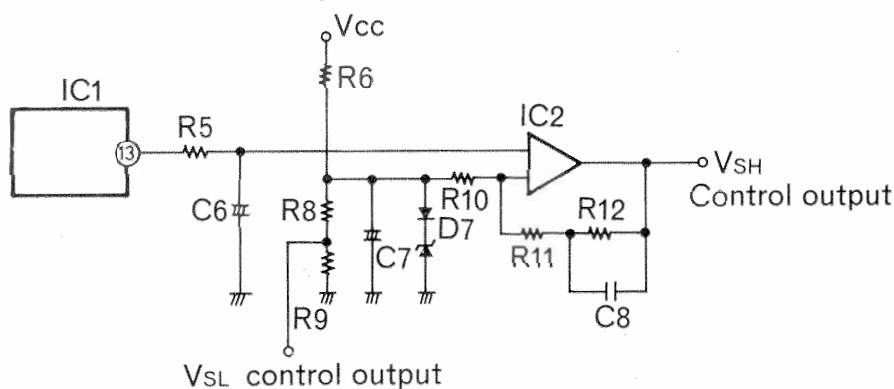

Fig. 28
The f-v converted signal obtained from terminal ⑬ of IC1 passes through the low-pass filter composed of R5 and C6 shown in Fig. 28, and then compared after phase & temperature compensation by the next differential amp.